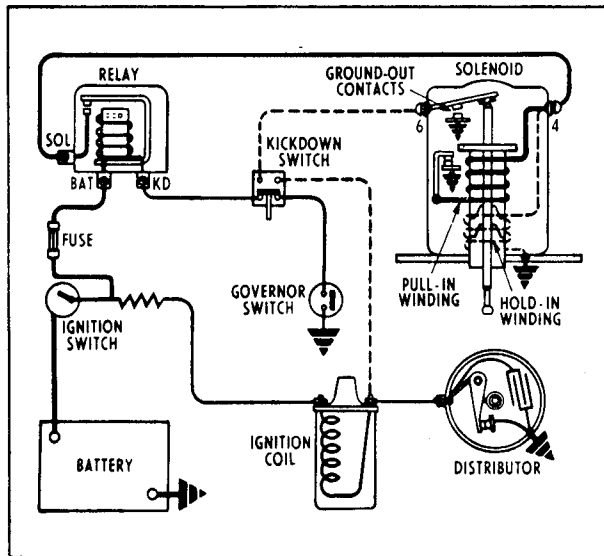

Fig. 28—Overdrive Electrical Circuit Wiring Diagram
The overdrive solenoid is mounted on the left side of the overdrive adapter. The solenoid contains two windings, a hold-in and pull-winding. The hold-in winding (dashed line, figure 28) consists of many turns of fine wire and remains energized as long as the overdrive is in operation. The pull-in winding (solid line) contains fewer turns of heavier wire and is necessary to create a magnetic field strong enough to start and complete the solenoid plunger movement. Once this movement is completed the hold-in winding alone is sufficiently strong to maintain the plunger in the "bottomed" position. Therefore, as the plunger moves into the "bottomed" position, the pull-in circuit is broken by a built-in stop which opens a pair of spring-loaded contact points which are
There are three separate circuits within the overdrive circuit (fig. 28); (1) control circuit, (2) solenoid circuit, and (3) ground-out circuit.
The ground-out circuit (dashed line, figure 28) is connected in parallel electrically with the distributor contact points and includes the normally-open contacts within the kickdown switch, as well as the normally-open solenoid contacts (connected to the No. 6 terminal of the solenoid) which close